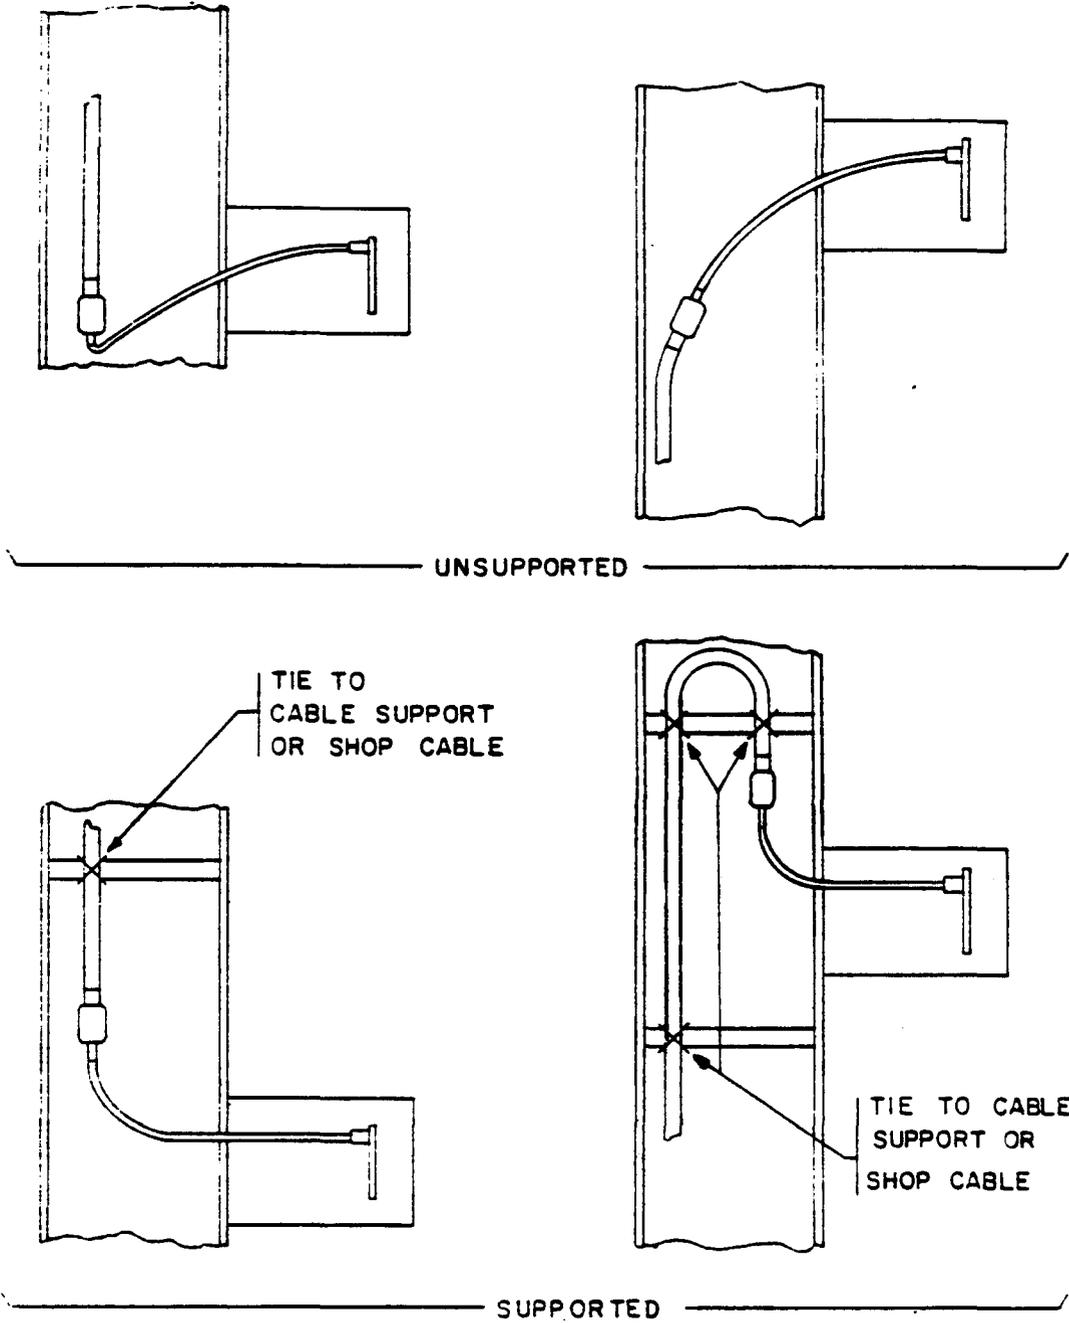

FIG 6 EXAMPLES OF SUPPORTING MINI-CABLE.
8.1 When the 219 connector is used to connect a KS-19224 miniature coaxial cable to a larger cable, the connector should be positioned so that it and the mini cable will be supported entirely by the larger cable. See Figure 6.